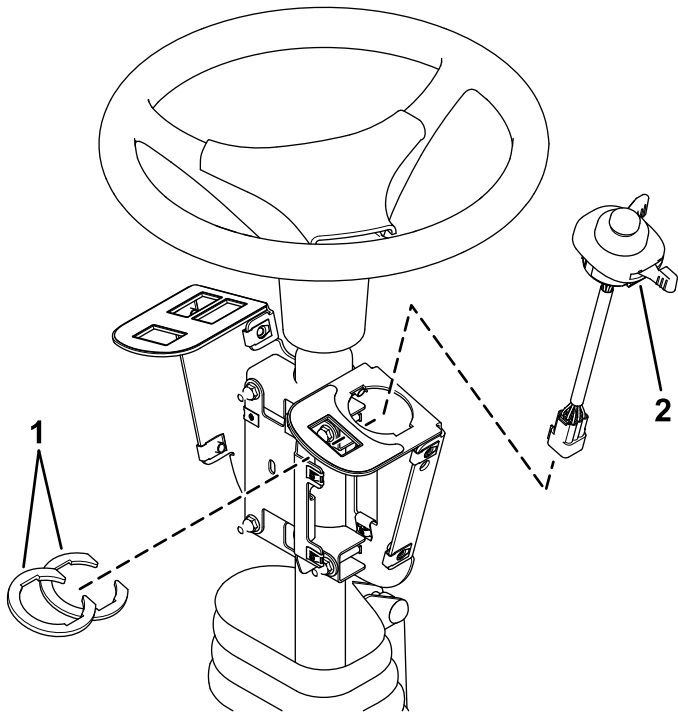

Figure 5
2. Install the multi-function switch to the switch mount and secure it using the switch clips under the hole for the switch (Figure 5).